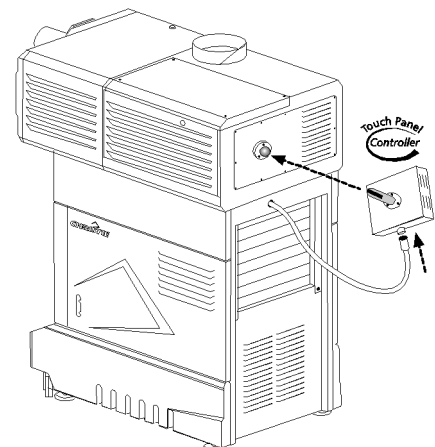

Figure 2-4 Typical TPC Mounting
- Attach the Touch Panel Controller (TPC), pre-assembled with its ball joint base and mounting arm, to the matching ball joint base secured at the rear of the projector (**Figure 2-4**).